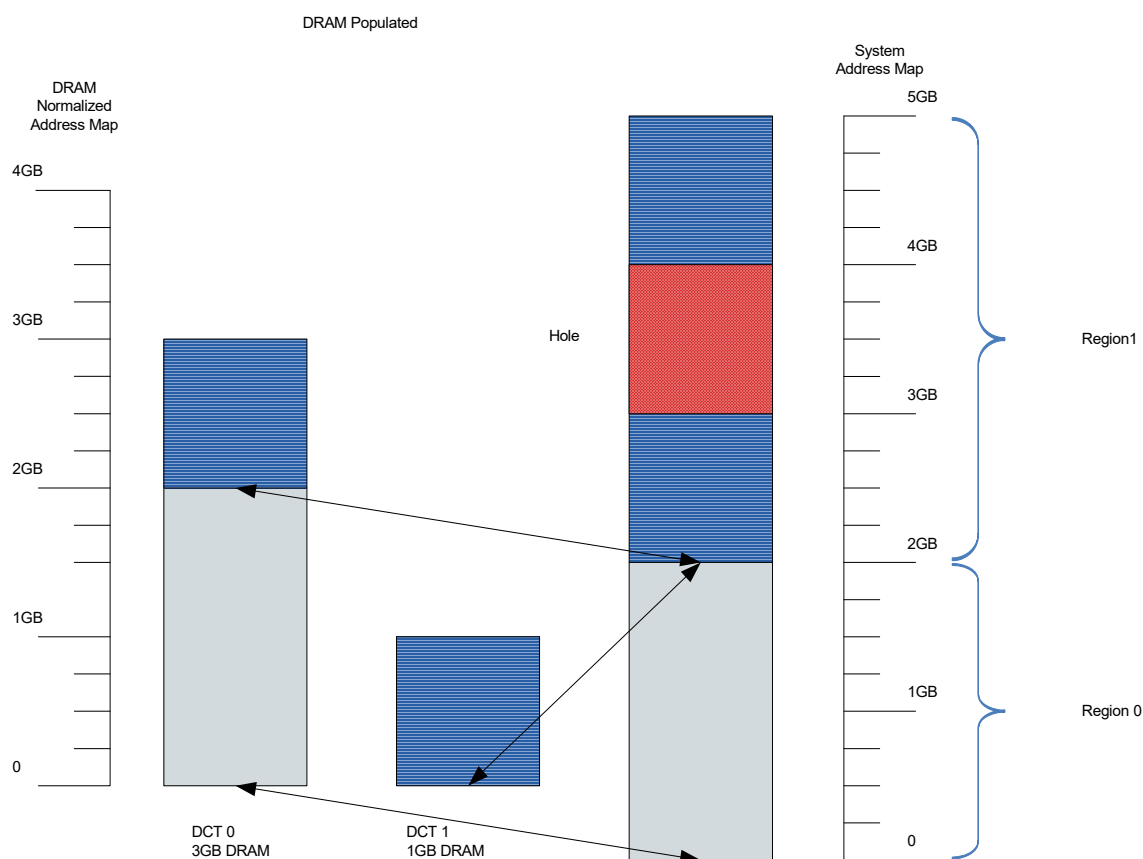

Figure 5: 2 DCT Channel Interleaved
- **Figure 5:** Region 0 maps addresses 0x0 thru 0x7FFF_FFFF, offset Region 1 which is 2x channel interleaved.
- `D18F1x240[DctHighAddrOffset] = ((0x7FFF_FFFF + 1) - 0 - 0) / (1) = 2GB. //DCT 0 offset from Region 0.`